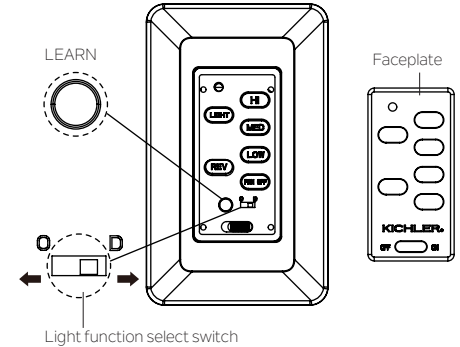

Fig. 17
1. Use a small flat screw driver and gently pry the faceplate apart from the top of wall control. (Fig. 17)